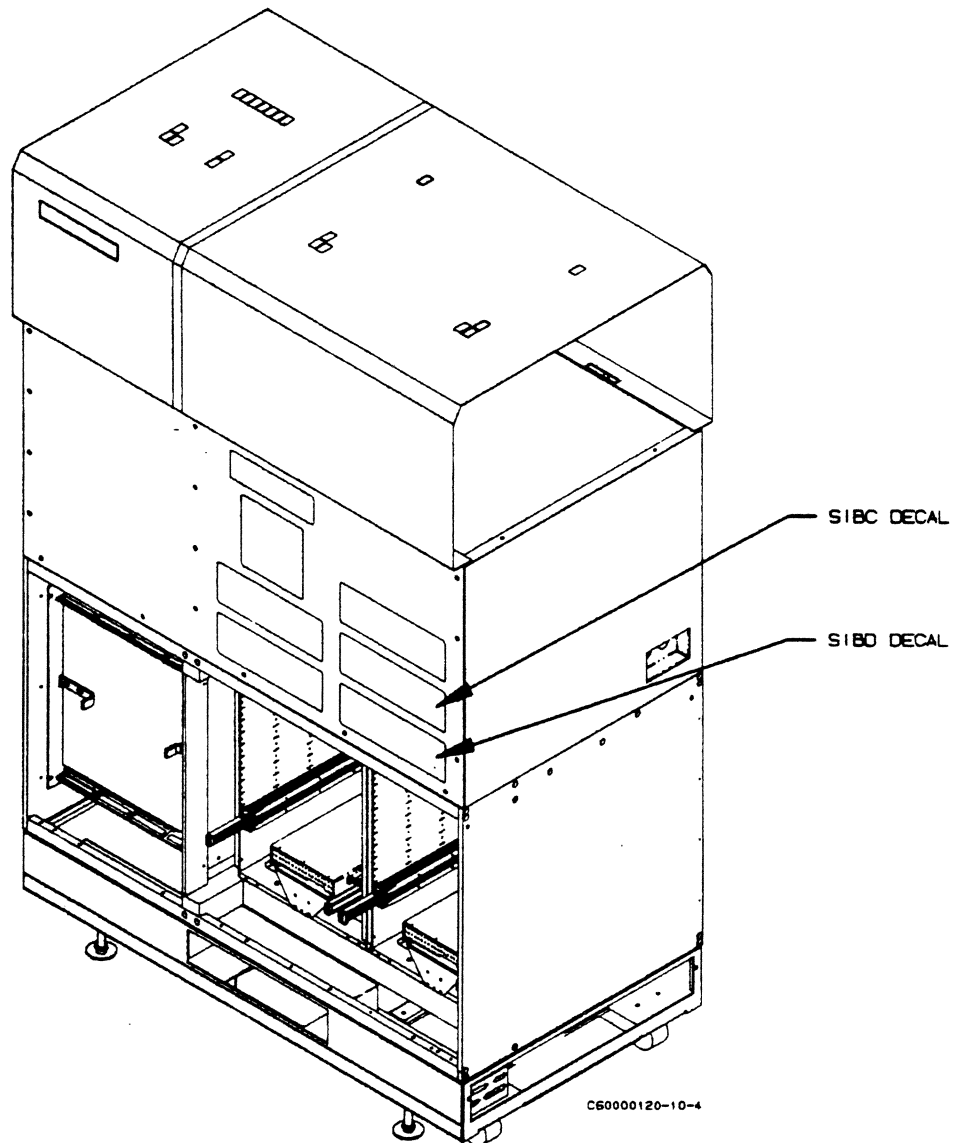

Figure 3-19. SIBC and SIBD Decal Location
- 6. Attach SIBC and SIBD decals to front of blower box (figure 3-19).